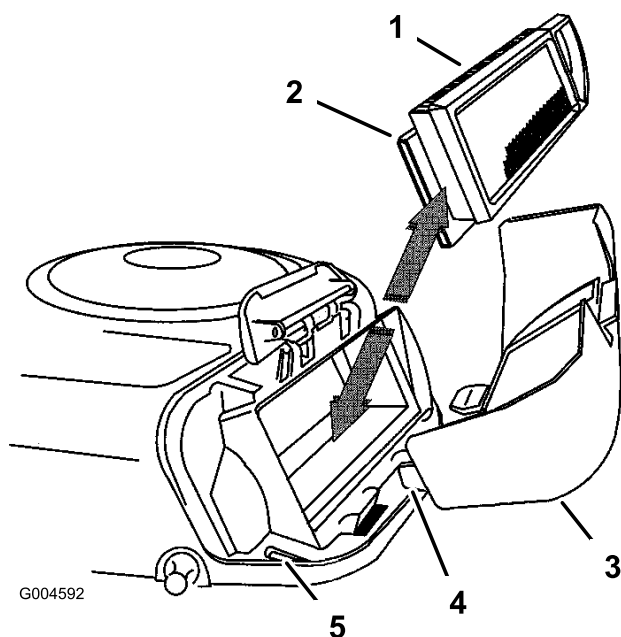

Figure 22
5. Carefully slide the paper element and foam element from the blower housing (Figure 22).
3. Hook the handle onto the cover and press down on the handle to lock the cover in place (Figure 22).